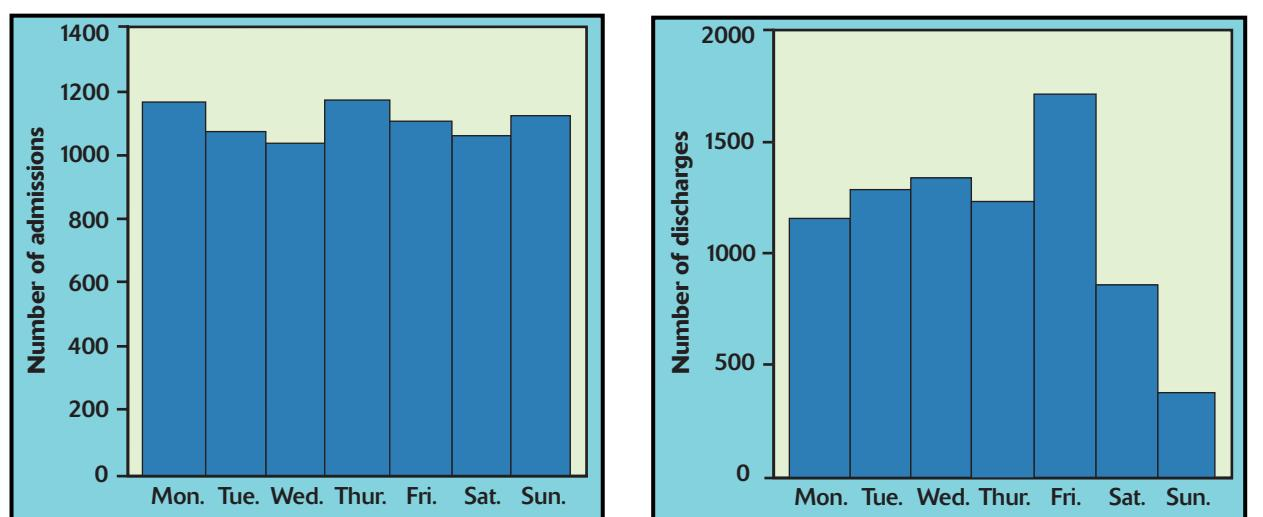

FIGURE 1.34 Bar graphs of the number of heart attack victims admitted and discharged on each day of the week by hospitals in Ontario, Canada, for Exercise 1.88.
- 1.88 **Never on Sunday?** The Canadian province of Ontario carries out statistical studies of the working of Canada's national health care system in the province. The bar graphs in Figure 1.34 come from a study of admissions and discharges from community hospitals in Ontario.²¹ They show the number of heart attack patients admitted and discharged on each day of the week during a 2-year period.